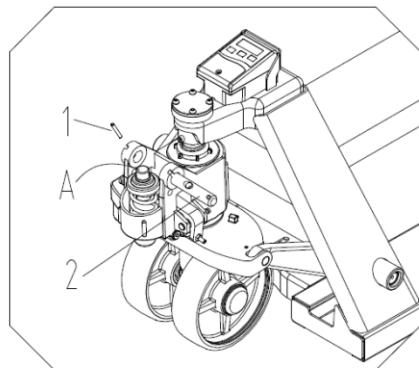

Fig. 1
1. Pull out the spring pin 1 first, and then pull out the pin roll 2. (*Fig. 1*)